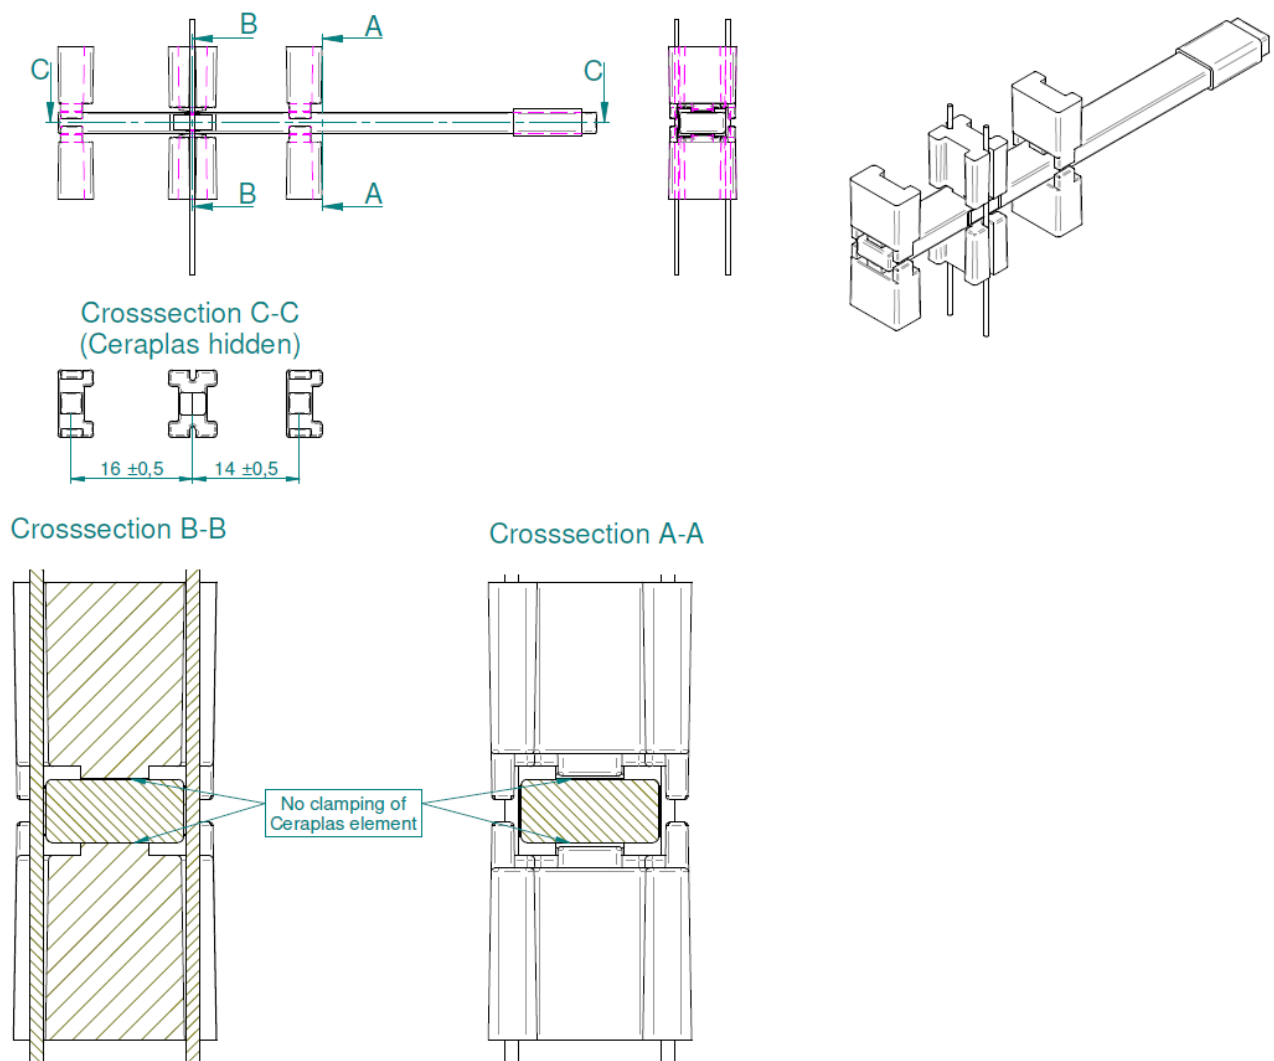

Figure 5: Mounting recommendations
- Mounting recommendations: It is important to mount the CeraPlas element only via the pins to prevent any damping of its vibrations (Figure 5).